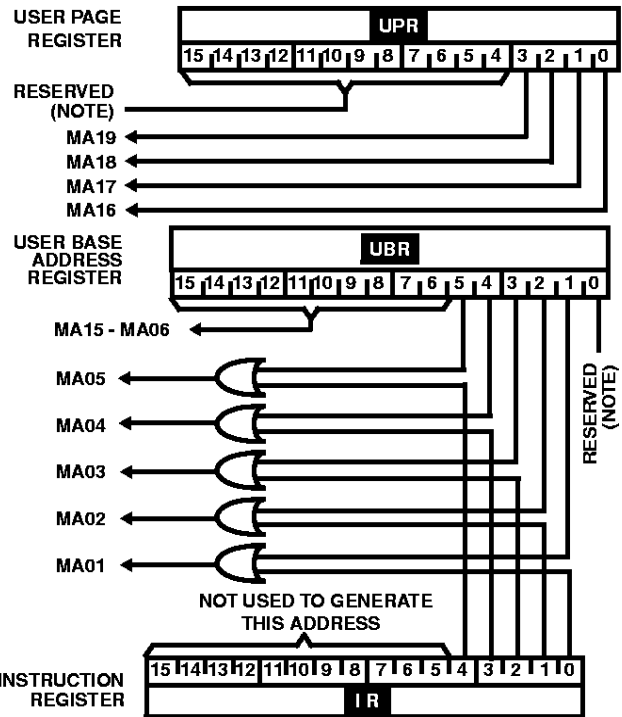

FIGURE 13. **UPR** AND **UBR** BIT ASSIGNMENTS
**UPR**: The User Page Register contains the value for the current User page. See Figure 13 for bit field assignments.
**UBR**: The User Base Address Register contains the base address for User Memory Instructions. See Figure 13 for bit field assignments.